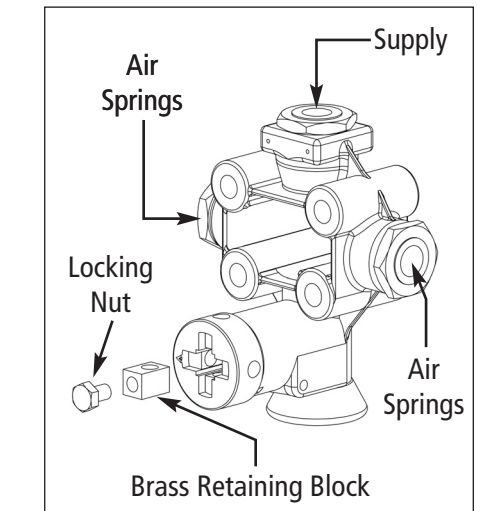

**Figure 2. Vertical and Horizontal Installation**
**Important:** Direction arrow must be in proper position for valve to function properly. (See Figure 2)
3. Connect the air supply line to the air supply port of the EGP. If using 90555106, the supply port is port 1. (See Figure 2)
5. Install the EGP control arm. Refer to Figure 2 for proper control arm installation.
**NOTE:** Correct position of the direction arrow on the valve actuator shaft to the direction of the control arm is critical. Incorrect installation will impair suspension and vehicle performance. (See Figure 2)